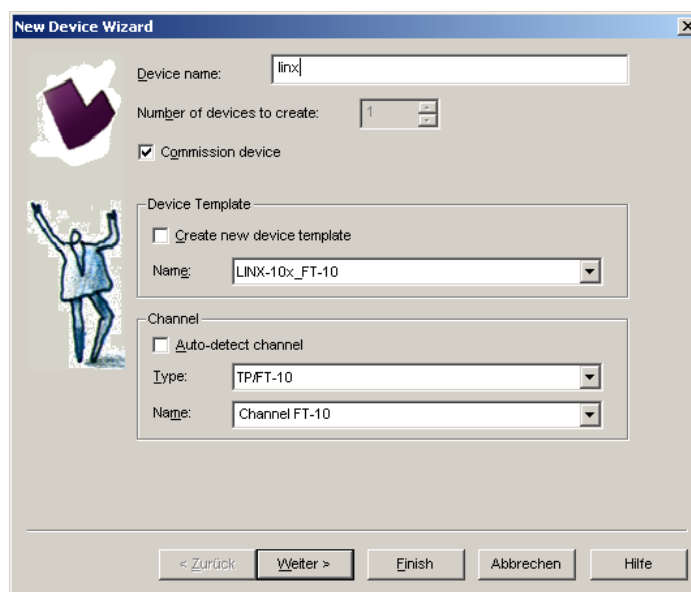

Figure 81: Create a new device in the drawing.
1. In your LonMaker drawing, drag a device stencil into the drawing. Enter an appropriate name as shown in Figure 81.